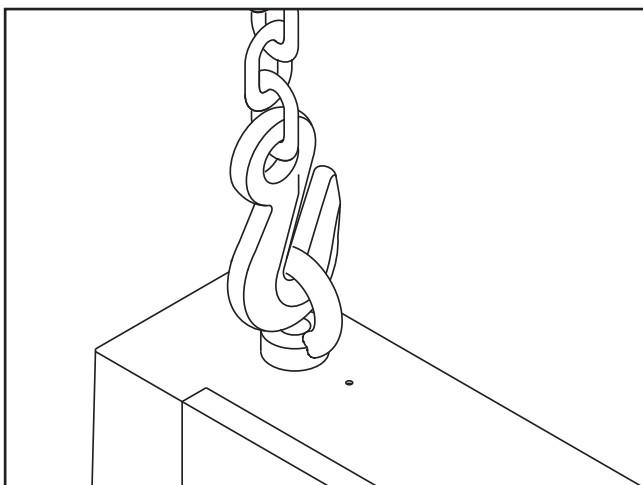

Figure 6. Lifting the bandsaw.
3. Place the lifting hook through the eye bolt (**Figure 6**) that is located on top of the machine.